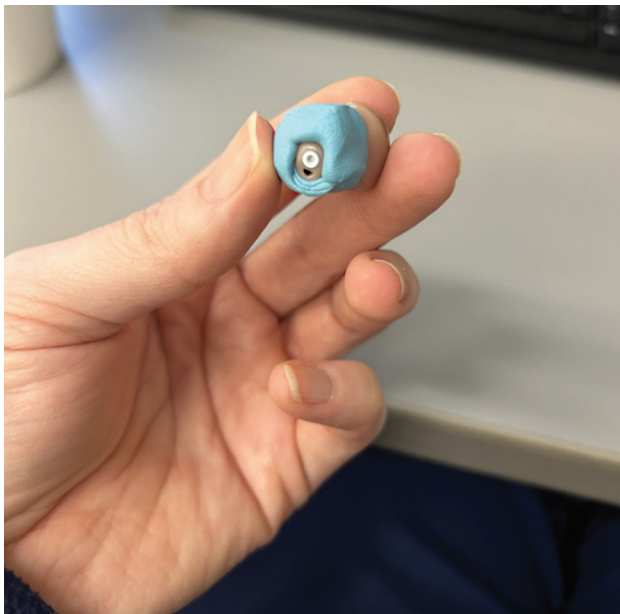

Figure 8 Using putty to create a seal between the hearing aid and the coupler.
2. Roll some putty into a small log shape, wrap it around the canal portion of the hearing aid, making sure not to block the sound outlet (Figure 8).